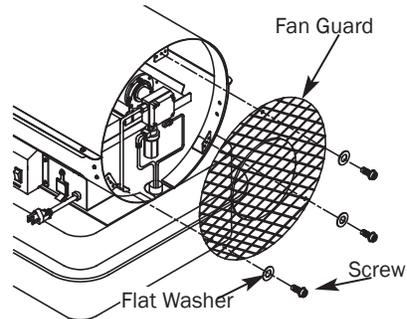

Figure 20 – Remove Fan Guard (CP400BK)
- Remove fan guard (See Figure 20,21).
- Use 3/8" wrench and tighten fuel line (B) at pump and pump fuel filter assembly.